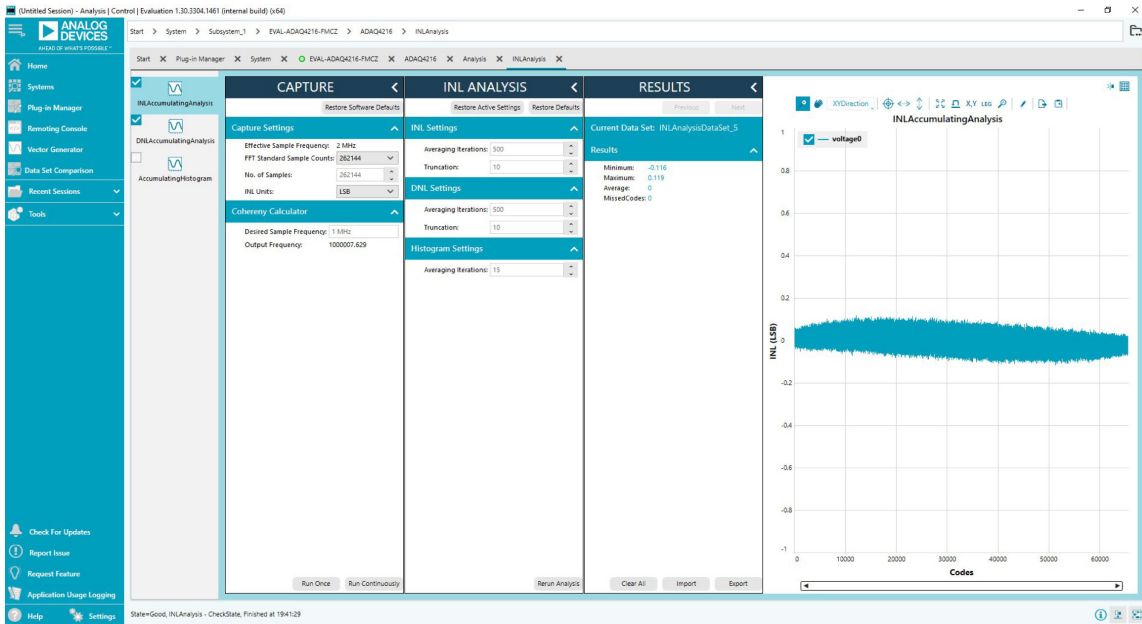
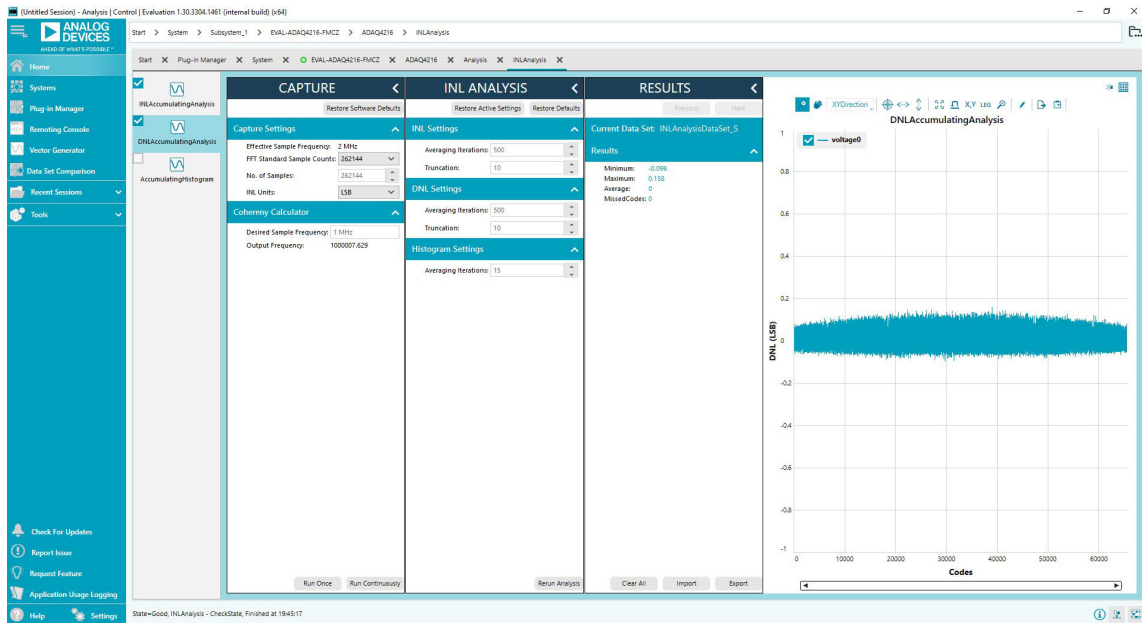

Figure 15. INL Analysis Tab, INL View
Figure 16. INL Analysis Tab, DNL View
7. For INL and DNL analysis, go back to the Chip view tab and click **Proceed to INL Analysis** button. On the **CAPTURE** and **INL Analysis** pane, set the sampling frequency, no. of samples, no. of iterations, truncation, and units. Before doing an INL analysis, modify the EVAL-ADAQ4216-FMCZ and install R67 and remove R59. This connects the VSS\_FDA pin of the ADAQ4216 to the -1V supply. After the INL capture is done, the user can view the results in then INL and DNL views, as shown in Figure 15 and Figure 16.
The INL Analysis tab allows the user to showcase the linearity performance of the ADAQ4216. Before performing any measurements, set the **Capture Settings** and **INL Settings** in the **CAPTURE** and **INL ANALYSIS** pane, respectively, as shown in Figure 15 and Figure 16. To perform linearity test, apply a +0.5dBFS amplitude sinusoidal signal from a precision signal source at the VIN+ and VIN- SMA inputs of the EVAL-ADAQ4216-FMCZ board. VSS\_FDA also needs to be connected to the on-board -1V supply.